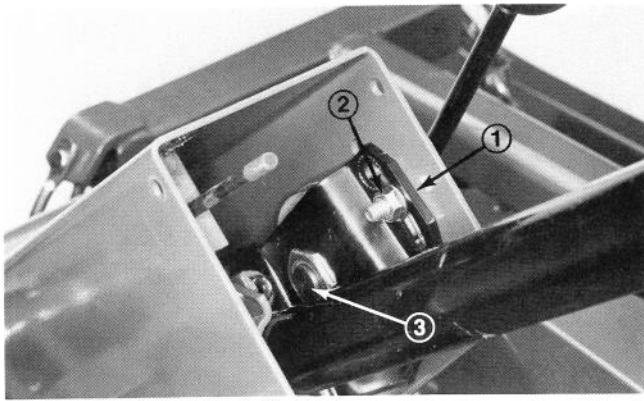

Figure 46
1. Remove knob from parking brake and self tapping screws from steering column cover. Slide cover up steering shaft to expose pivot bracket (Fig. 46).
2. Loosen small nut, rotate pivot bracket until it tightens large nut below (Fig. 46). Retighten small nut.